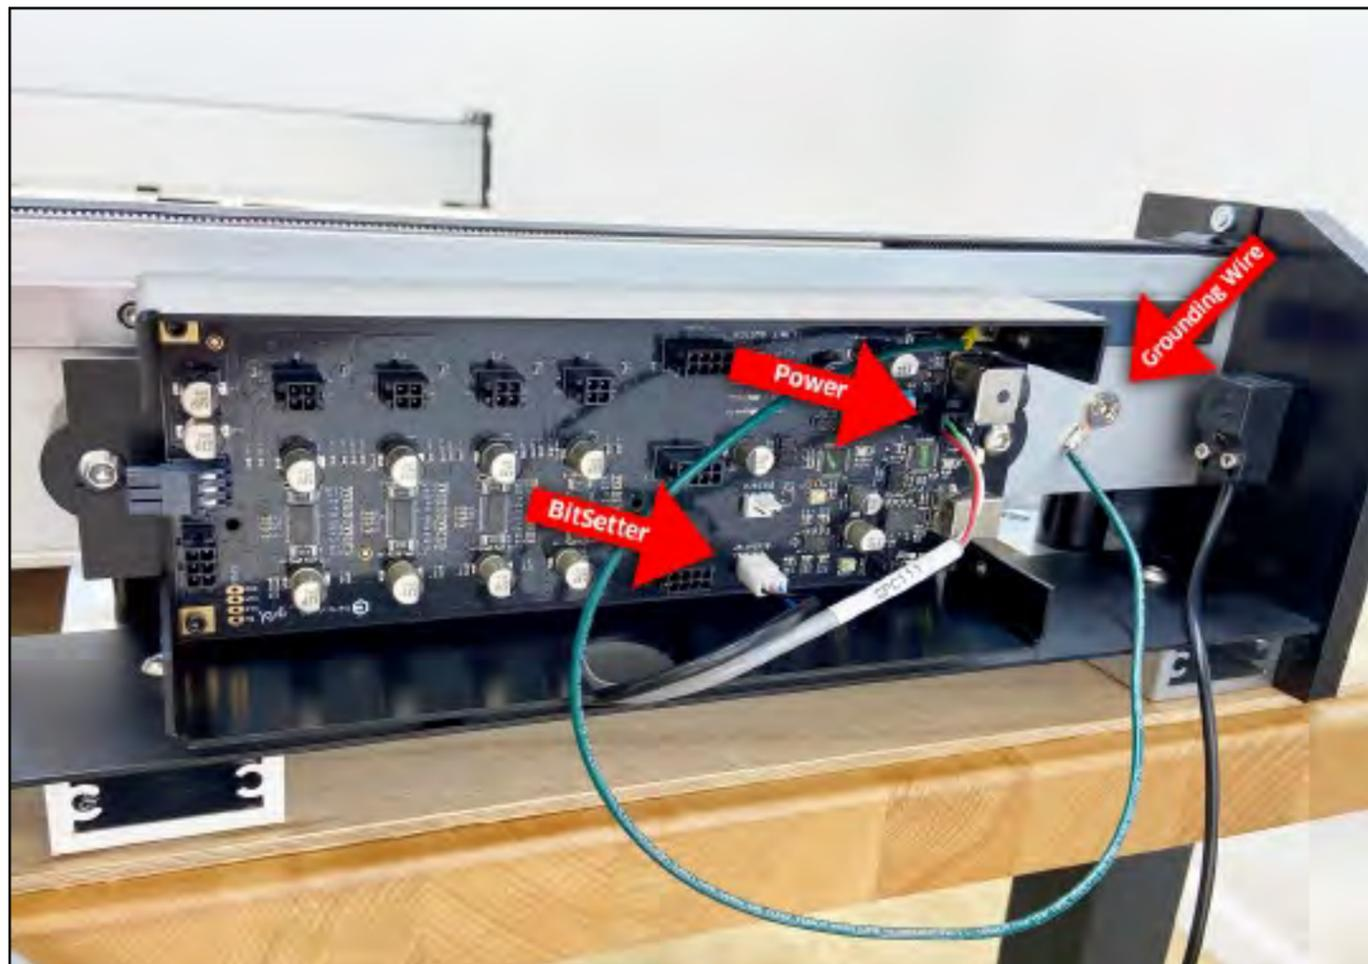

Figure 9-2
1. Screw the two (2) controller standoffs into the second and fifth threaded holes from the REAR of the Y-Right rail. Hand tighten.
- a. Power and USB to the back. **See Fig. 9-2.**
4. Use a 4mm hex key and two (2) M6×12mm BHCS to secure the controller to the standoffs. Fully tighten.
1. Use a 4mm hex key and one (1) M6×10mm FHS (found in the Extra Hardware Bag) to secure the green grounding wire to the first threaded hole from the rear of the rail. **See Fig. 9-2.**